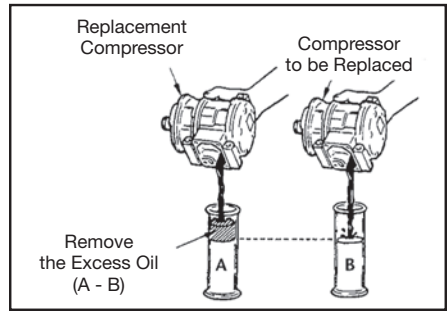

Fig. 1
**NOTE:** Not all DENSO compressors require the service valve(s) to be reused. If the compressor type does not use a separate service valve(s), it is **mandatory** to still verify the level of compressor lubricant. (See Fig. 1)
4. Verify the level of compressor lubricant. (See Fig. 1)